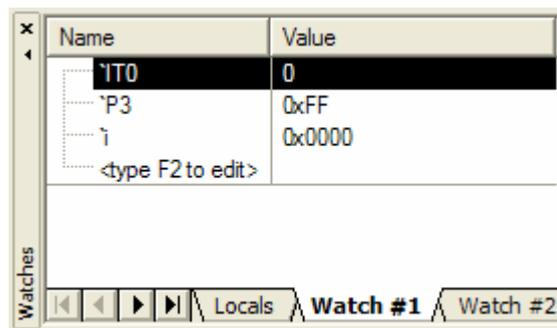

Figure 7
- 2). Also, you can observe the variables you are interested to. In the “View” Menu, click the “Watch & Call Stack Window”, then the Window like Figure 7 appears. You can input the names of the variables in the window.